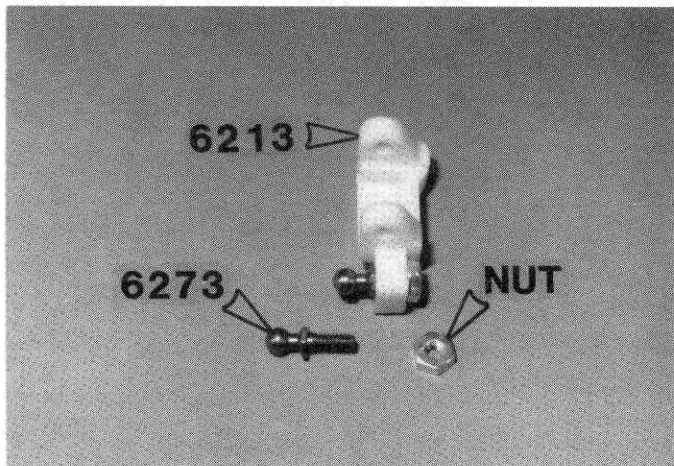

Fig. 9
□ **Fig. 9** From bag #6-14 screw the long ball end #6273 into the left hand front block carrier #6213 as shown, then screw on the locking nut. Assemble the right hand parts.